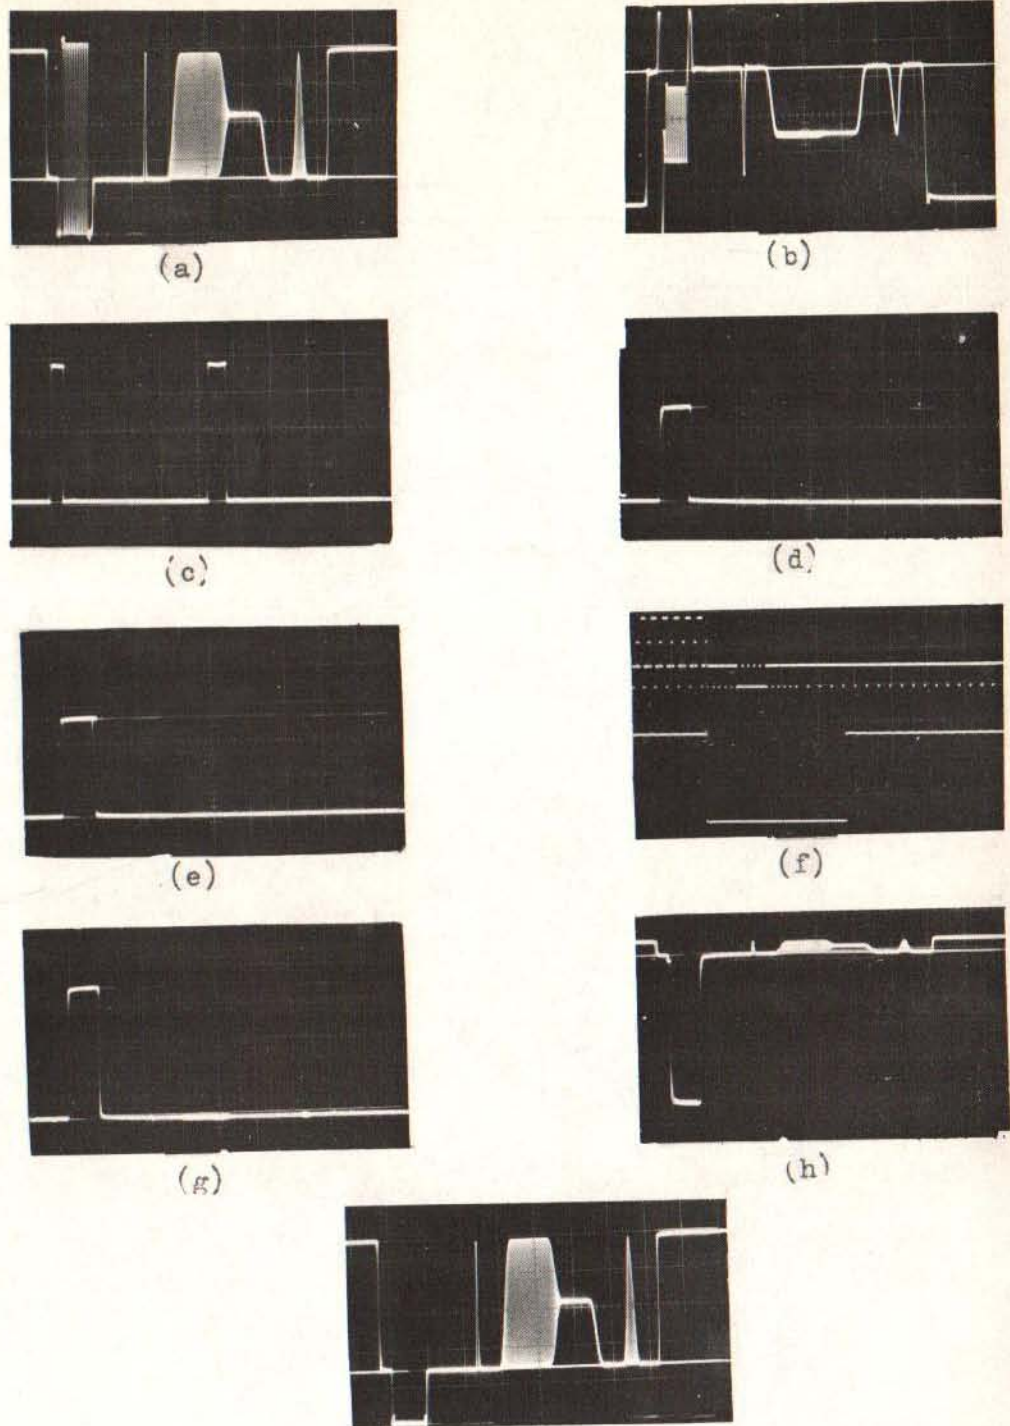

Fig. 2. Waveforms in the UN1/614
Encircled letters refer to waveforms in Fig 2
Check that positive-going syncs, see Fig. 2(c), appear at pin 7 of IC1. If the input to IC1 is not clamped or the d.c. level at pin 3 is incorrect, then the output from pin 7 of IC1 will be either missing or distorted.
9. Apply an augmented pulse-and-bar signal to the input of the unit. Monitor at TR18 collector, see Fig. 2(b), and check that all chrominance information has been removed from the signal. Monitor at the *Video Output* and check that the k-rating and the luminance/chrominance ratio of the signal are within the specification.